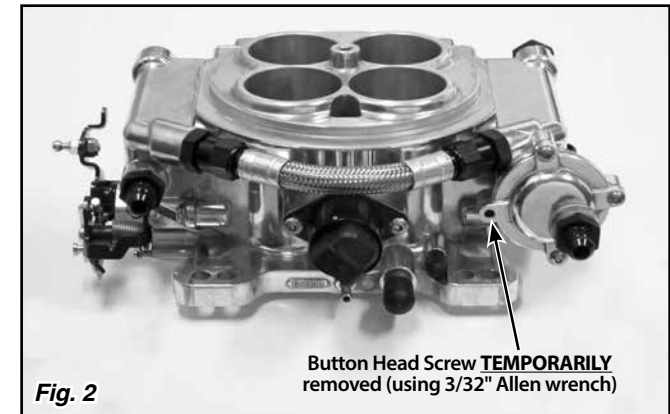

Fig. 2
Step 1: **TEMPORARILY** remove the button head screw from the left side of the fuel pressure regulator at the fuel outlet using a 3/32" Allen wrench, as shown in Fig. 2